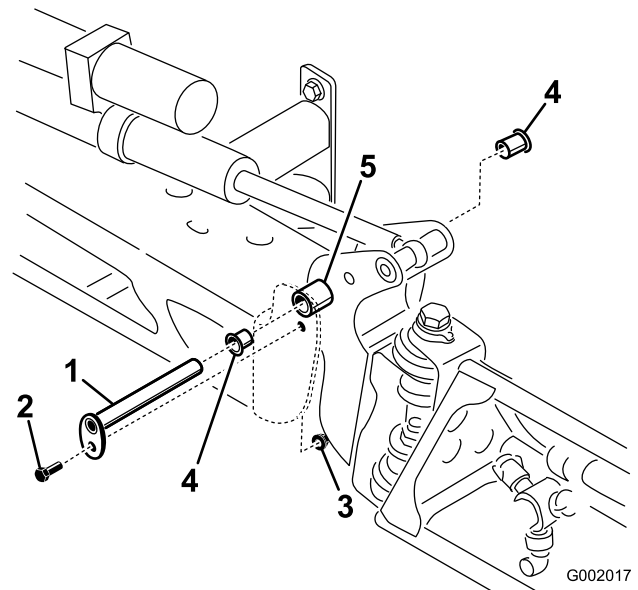

Figure 73
3. With the weight of the boom supported, remove the bolt and nut securing the pivot pin to the boom assembly (Figure 73). Remove the pivot pin.
5. Remove and inspect the nylon bushings from the front and back sides of the pivot bracket (Figure 73). Replace any damaged bushings.
7. Install the boom and pivot bracket assembly into the center frame, aligning the openings (Figure 73).